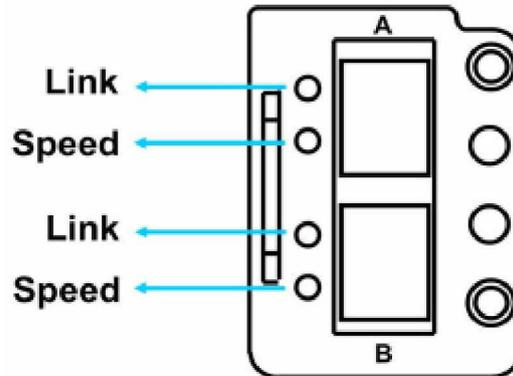

Figure 3-6: I/O Module LEDs
The X48 DUAL/SINGLE controller heads have twelve (12) Fibre ports. Each I/O module houses two (2) 4Gbps FC ports. Each of these Fibre ports has two (2) LEDs. (**Figure 3-6**).